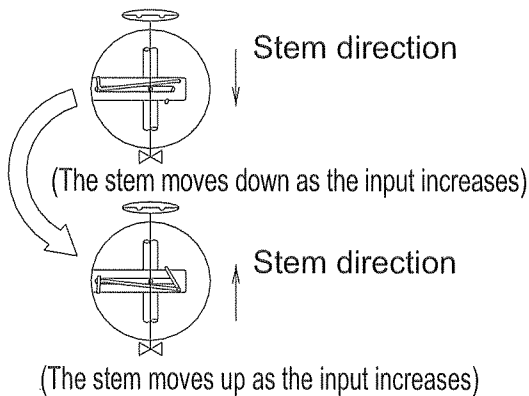

Fig.9 Use position of feedback lever
(1) Attach to the position that the valve stem and lever form the right angle when the input signal is 50%(distribute evenly with 50% input signal set as the reference).
(2) Attach to the position that the runout angle is within the range of 10° to 30°.
(3) To move the valve stem downward at the time of input current increase(normal actuation), attach to the position at which the tightening spring comes to the upper side of the connection, as shown in Fig.9.